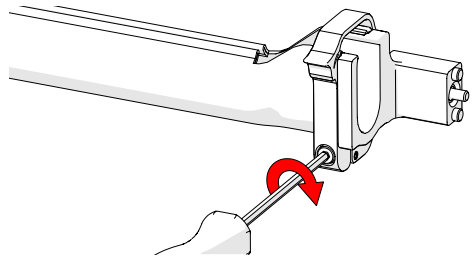

Fig. 168 - Tighten clamp screw
5. Tighten the clamp screw (Fig. 168).